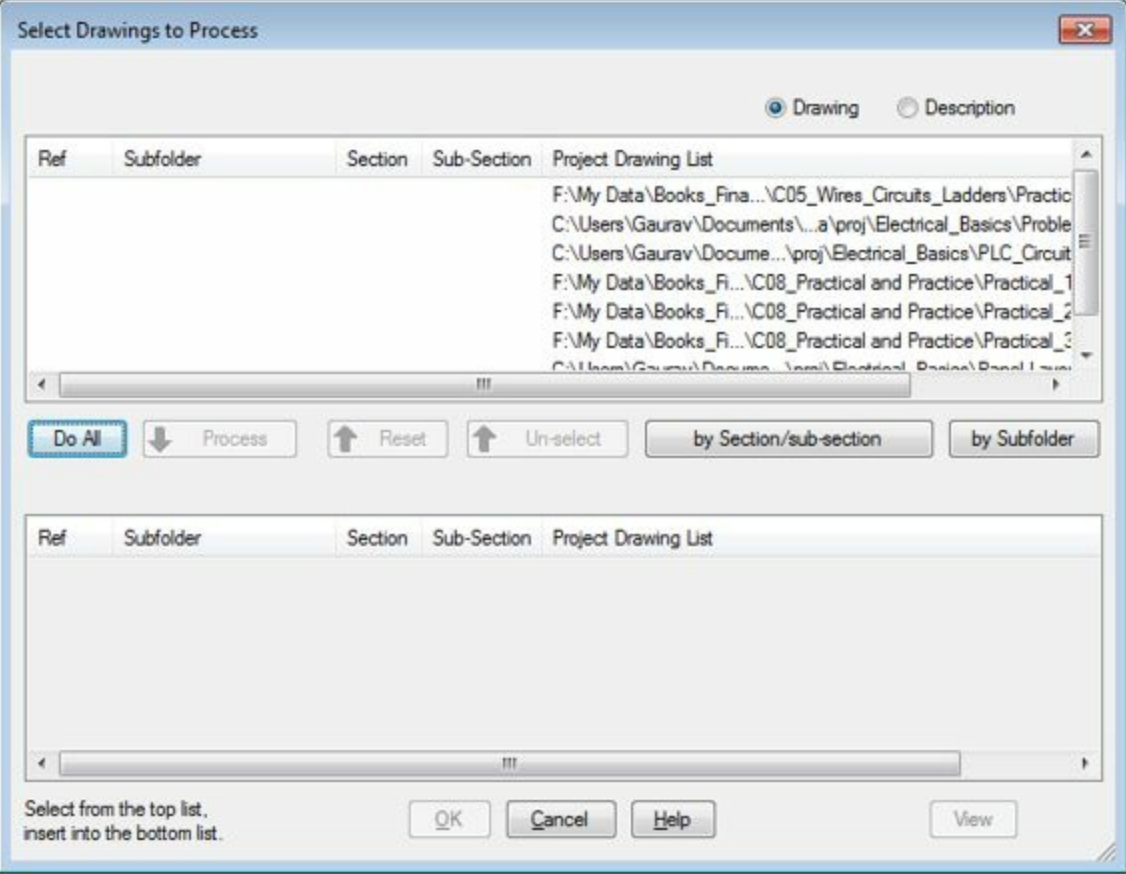

Figure-55. Select Drawings to Process dialog box
- Make sure that the **Project** radio button is selected and then click on the **OK** button from the dialog box. The **Select Drawings to Process** dialog box will be displayed; refer to Figure-55.